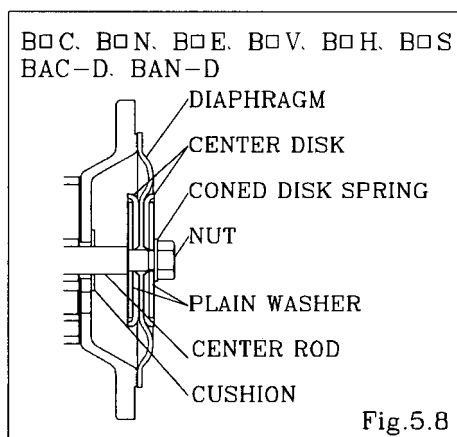

Fig.5.8
- Draw the center disk to one side, (cf. Fig.5.8)and install the out chamber. Tighten the bolts temporarily.
- Draw the center disk to the opposite side, then turn the diaphragm over (cf. Fig.5.8). And install the out chamber. Tighten the bolts temporarily.